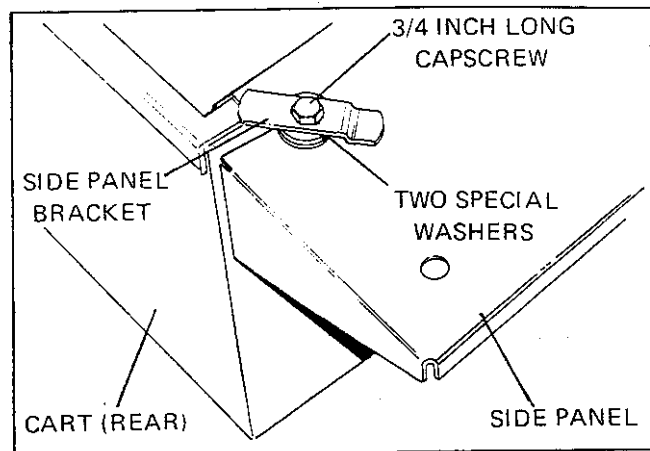

FIGURE 16
5. Secure bracket to inside rear of side panel with two special washers (above side panel), a flat washer (underside panel), a 3/4 inch long capscrew, and locknut (Figure 16). Position side panel bracket at angle illustrated. Repeat procedure for remaining rear corner.